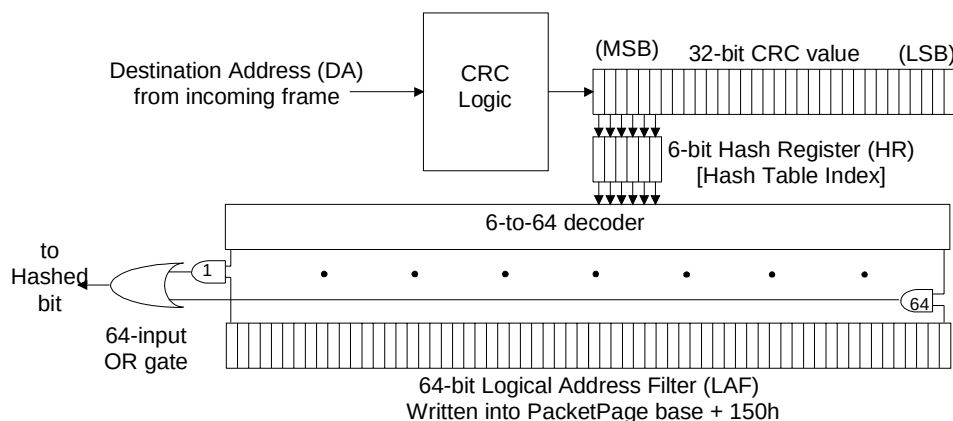

Figure 21. Hash Filter Operation
See Figure 21. The DA of the incoming frame is passed through the CRC logic, generating a 32-bit CRC value. The six most-significant bits of the CRC are latched into the 6-bit hash register (HR). The contents of the HR are passed through a 6-to-64-bit decoder, asserting one of the decoder’s outputs. The asserted output is compared with a corresponding bit in the 64-bit Logical Address Filter,